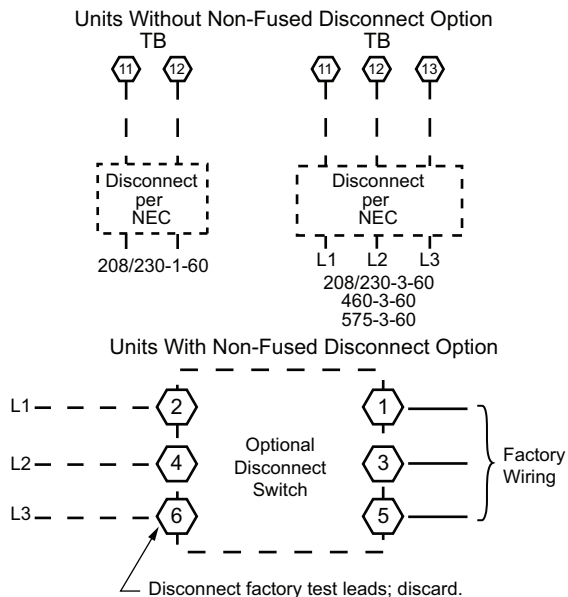

Fig. 17 — Power Wiring Connections
Refer to Fig. 17 for power transformer connections and the discussion on connecting the convenience outlet on page 15.
Field power wires are connected to the unit at line-side pressure lugs on compressor contactor C (see wiring diagram label for control box component arrangement) or at factory-installed option non-fused disconnect switch. Maximum wire size is No. 2 AWG (copper only). (See Fig. 17 and 18.)
The factory-installed option non-fused disconnect (NFD) switch is located in a weatherproof enclosure located under the main control box. The manual switch handle and shaft are shipped in the disconnect enclosure. Assemble the shaft and handle to the switch at this point. Discard the factory test leads (see Fig. 17).
All field wiring must comply with NEC and all local codes. Size wire based on MCA (Minimum Circuit Amps) on the unit informative plate. See Fig. 17 and the unit label diagram for power wiring connections to the unit power terminal blocks and equipment ground. Maximum wire size is No. 2 ga AWG per pole.
2. Install power lines to terminal connections as shown in Fig. 17.